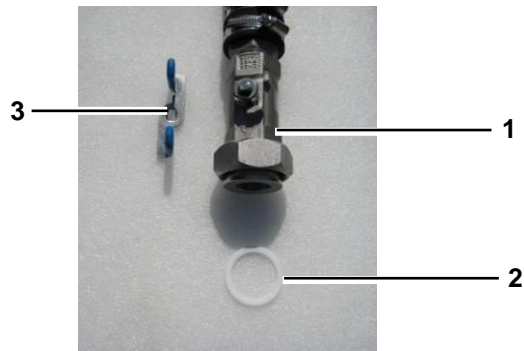

Figure 4.6 Hose connection (inlet/outlet)
3. Mount the handles [Figure 4.6-3] on the hose valves [Figure 4.6].
5. Open the four valves - on the inverter inlet and outlet connections [Figure 4.5-3, -6] and on the inlet and outlet hoses [Figure 4.6] (counter-clockwise).